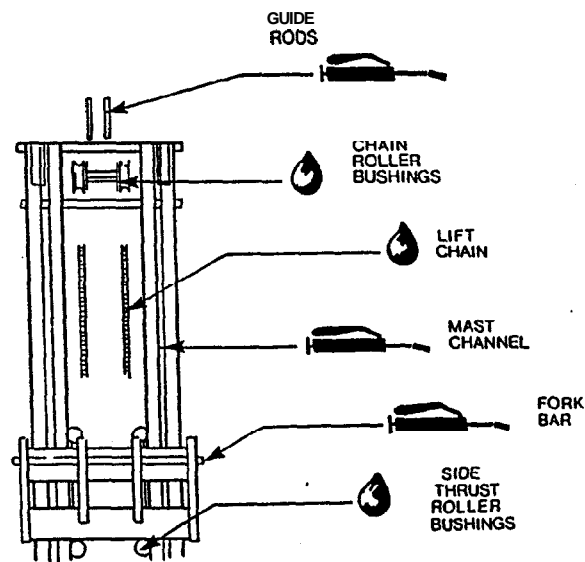

FIGURE 3
1. Lubricate the points shown in Figure 3. For best performance lubricate weekly.